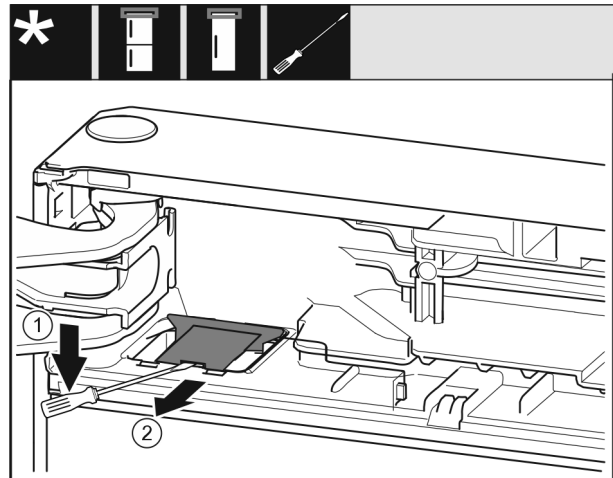

Fig. 6
- Unlatch the cover with a slotted screwdriver and lift it up. Fig. 6 (1)
- Take out the cover. Fig. 6 (2)